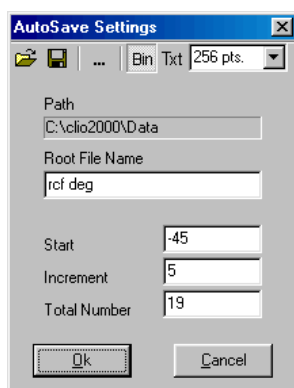

Fig.6.3 Autosave settings
**Path** defines the folder where the file will be saved; it is possible to choose it clicking on the browse for folder button (...). In Fig.6.3 we see path defined as c:\clio2000\data
**Root File Name** defines the part of the file name that will not change during autosave; in Fig.6.3 it is 'rcf deg'.
**Start** defines the initial number appended to the root. This number will always be multiplied by 100 to give space for two decimals management. Numbers are appended with spaces. In Fig.6.3 start is -45; this will define the first autosaved file name as 'c:\clio2000\data\rcf deg -4500'
**Increment** defines the increment to be given to the autosaved file names. In the example of Fig.6.3 the second autosaved file will be named 'c:\clio2000\data\rcf deg -4000'